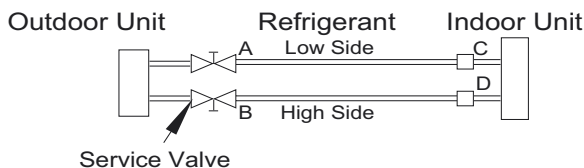

Fig. 21 — Service Valve
1. Completely tighten flare nuts A, B, C, D, connect the manifold gage charge hose to a charge port of the low side service valve (see Fig. 21).